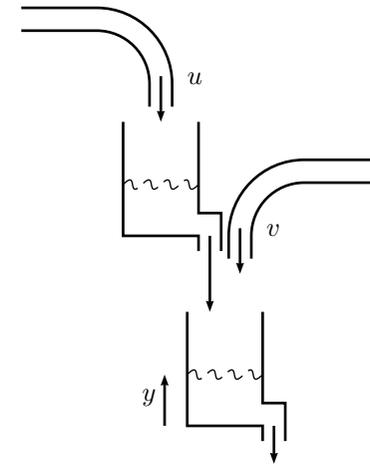

Figure 6.13a
6.13 Consider the connected tank system in Figure 6.13a where u is the inflow to the upper tank and y is the level in the lower tank. The system can approximately be described by the following transfer function